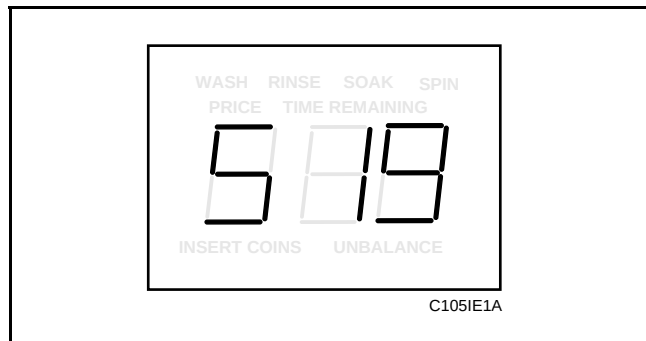

Figure 91
2. While pressing and holding the PERM PRESS keypad with one hand, press the COLD keypad with the other hand. Programmable option number one, “Slg”, will appear in the VFD. See **Figure 91**.